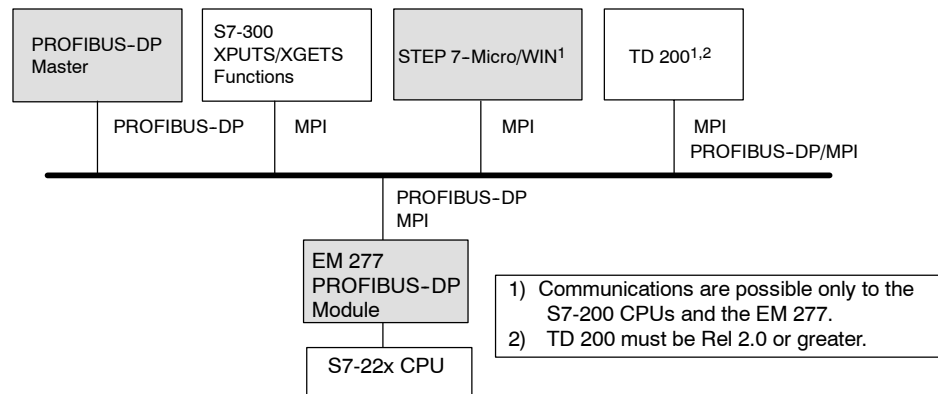

Figure A-24 PROFIBUS-DP/MPI Network
A maximum of six connections (six devices) in addition to the DP master can be connected to the EM 277 PROFIBUS-DP module. One connection is reserved for a programming device (PG) and one is reserved for an operator panel (OP). The other four connections can be used by any MPI master. In order for the EM 277 PROFIBUS-DP module to communicate with multiple masters, all masters must be operating at the same baud rate. See the Figure A-24 for one possible network configuration.